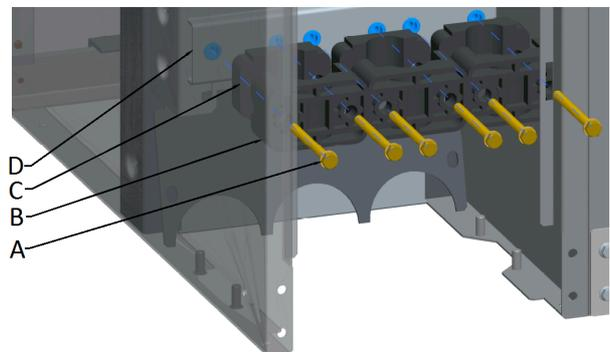

Figure 22: Assembly of the bottom panel
- Unscrew, for every cable support (Figure 22 B+C), the hexagonal tap bolts (Figure 22 A) to allow disassembly of the twofold cable support.
Depending on the size of the diameter of the cable, it might be necessary to disassemble the cable support entirely (Figure 22 D.)